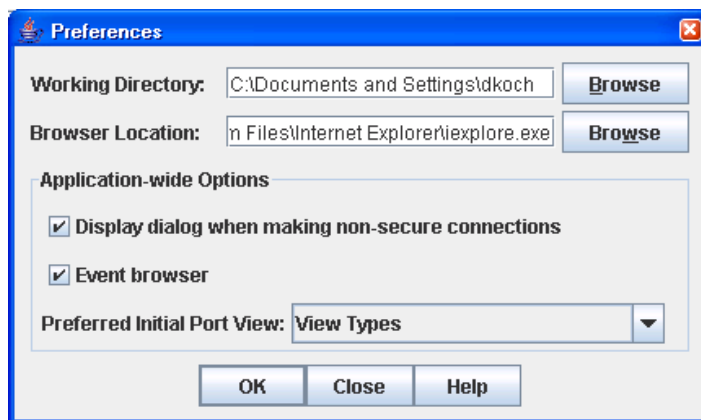

Figure 4. Preferences dialog
- Enable (default) or disable the Event Browser. See “Event Browser” on page 3-16. If the Event Browser is enabled using the Preferences dialog as shown in Figure 4, the next time QuickTools is started, all events will be displayed. If the Event Browser is disabled when QuickTools is started and later enabled, only those events from the time the Event Browser was enabled and forward will be displayed.